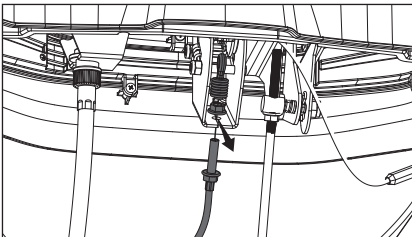

Figure 85
- Remove the cable from the bracket. (Fig. 85)